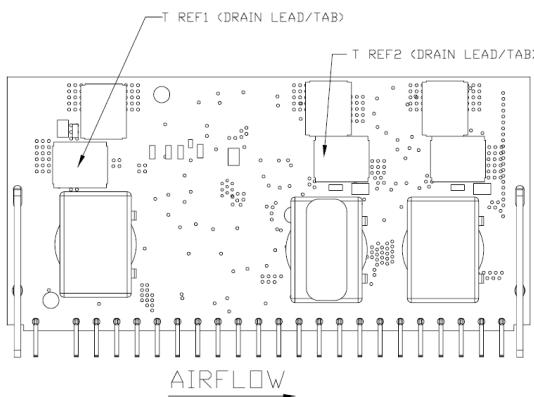

Figure 45. Temperature measurement locations  $T_{ref1}$  and  $T_{ref2}$ .
The thermal reference points,  $T_{ref1}$  and  $T_{ref2}$  used in the specifications are shown in Figure 45. For reliable operation this temperatures should not exceed 120°C. The output power of the module should not exceed the rated power of the module ( $V_o, set \times I_o, max$ ).